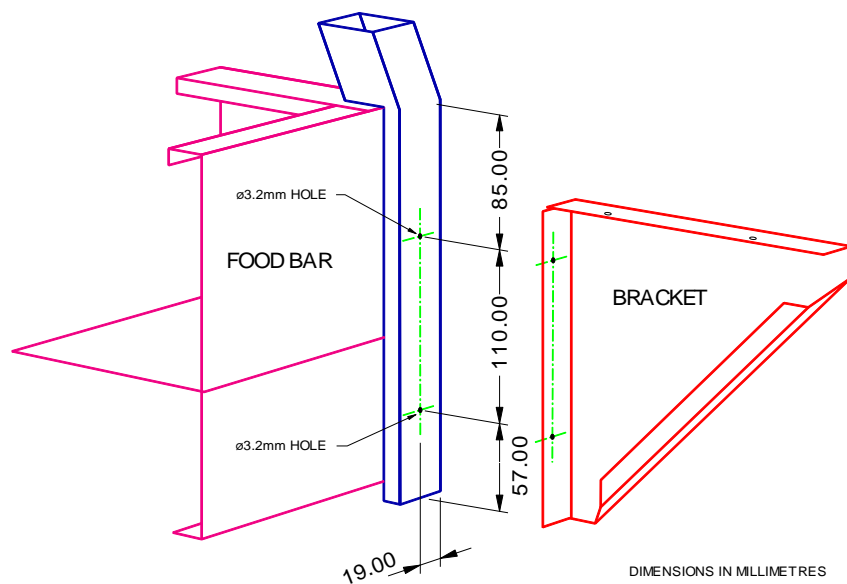

Figure 1 - Mounting the Brackets
2. Refer to Figure 1 overleaf and mark out the positions for the holes on the side of the food bar that you have decided to install the tray race, at your desired height. The dimensions shown position the tray in the lowest position.